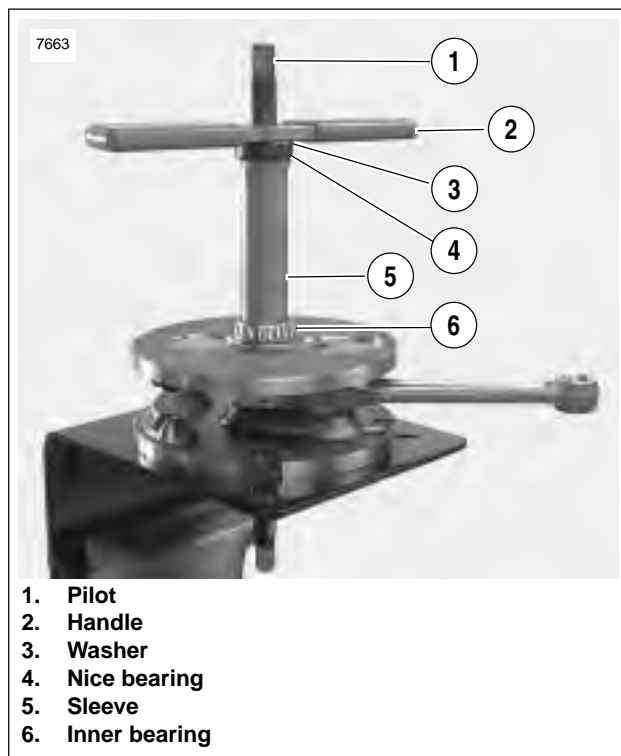

Figure 3-137. Inner Bearing Installation
See Figure 3-137. Use *SPROCKET SHAFT BEARING/SEAL INSTALLATION TOOL* (Part No. HD-42579) to install sprocket shaft tapered roller bearings and seal.
8. See Figure 3-137. Install inner bearing.